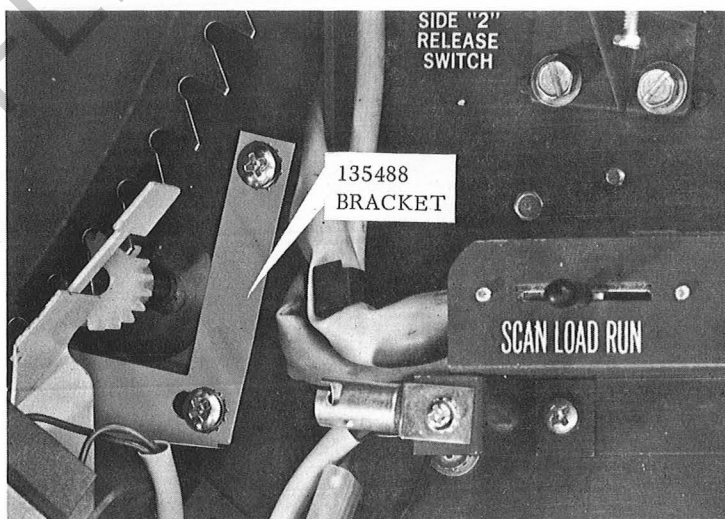

Fig. 1
4. Rotate the Record Magazine several cycles and adjust the bracket so that at least  $1/32$ " clearance is found between the front face of the bracket and the Record Magazine gear teeth. One of the bracket screw holes is slotted so that the bracket can be pivoted for this adjustment. Tighten the two screws. See Fig. 1